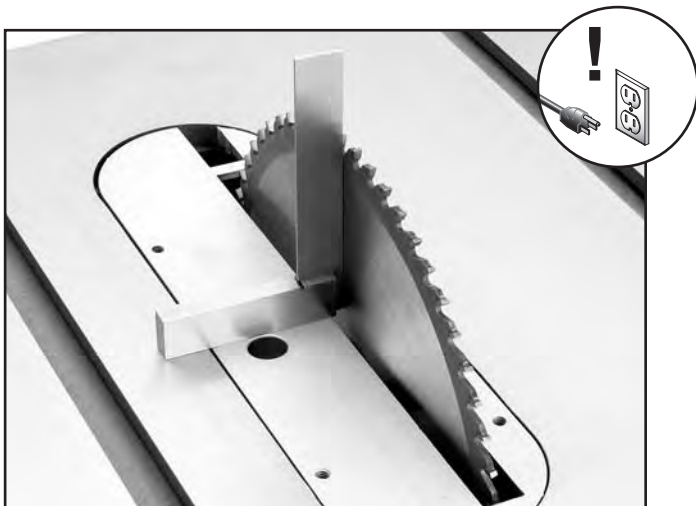

Figure 64. Checking blade angle to table.
4. Place a machinist's square against the blade and table surface, as shown in **Figure 64**.